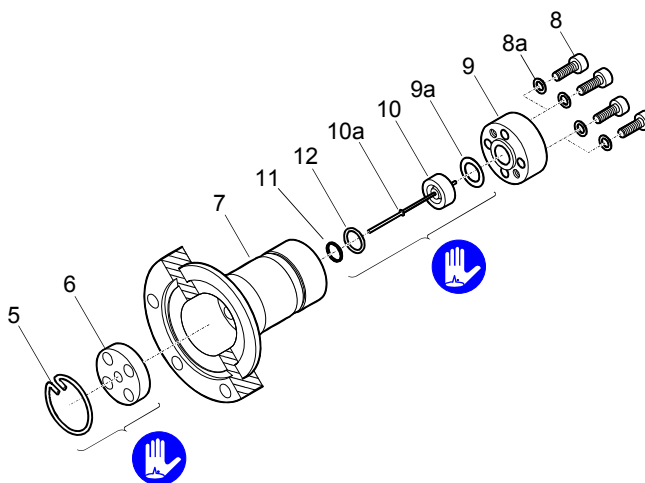

Figure 3b
- ❶ Remove the used ignition aid (10a) with pliers (→ Figure 3b).
- ❷ Using a polishing cloth rub the anode pin to a bright finish.
- ❶ Insert a new metal seal (11) incl. the centering ring (12) centered into the measuring chamber. Make sure the seal and ceramic are clean (→ Figure 3b).
- ❷ Carefully insert the anode (10) incl. ignition aid (10a) into the measuring chamber.
- ❸ Place the washer (9a) and pressure piece (9) on the measuring chamber and secure them by **uniformly** tightening the four screws (8) incl. lock washers (8a) until the mechanical stop is reached.
- ❹ Position the ignition aid (10a) by sliding the mounting tool over the anode pin until the mechanical stop is reached.
- ❺ Blow the particles in the measuring chamber with dry nitrogen (be careful to hold the measuring chamber with the flange pointing downwards).
- ❻ Slide the polarity insert (6) into the measuring chamber until the mechanical stop is reached.
- ❼ Place the circlip (5) snugly fitting on the polarity insert.